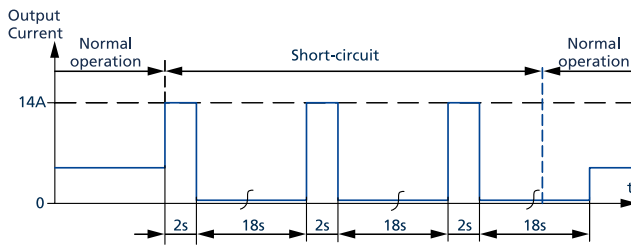

Fig. 6-3: Short-circuit on output, HiccupPLUS mode, typ.
- 3) At heavy overloads (when output voltage falls below 13V), the power supply delivers continuous output current for 2s. After this, the output is switched off for approx. 18s before a new start attempt is automatically performed. This cycle is repeated as long as the overload exists. If the overload has been cleared, the device will operate normally. See Fig. 6-3.